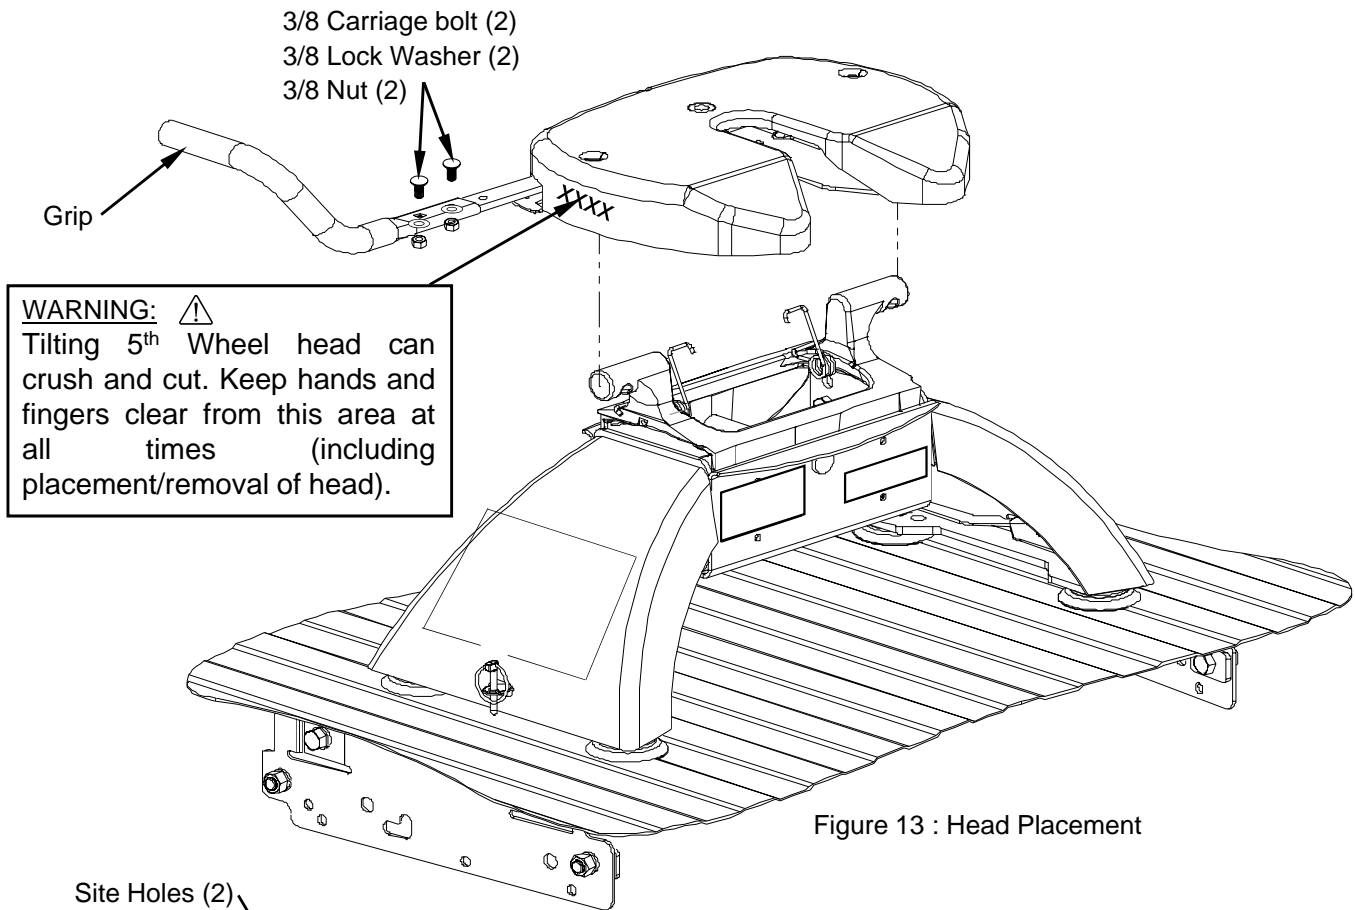

Figure 13 : Head Placement
11. Place and pin head onto center section (see Figures 13/14). Keep hands clear of ear placement while placing/removing head onto/off hitch base as noted on head labels. Head will tilt rearward with proper torsion spring installation (Step 10).
12. Add head handle and handle carriage bolts as shown in Figure 13.
5. **KEEPING HANDS AND FINGERS AWAY FROM THE PINCH POINTS ON EACH SIDE OF THE HEAD**, place head onto center section (Figure 13). Head should tilt rearward on the torsion springs.
2. **KEEPING HANDS AND FINGERS AWAY FROM THE PINCH POINTS ON EACH SIDE OF THE HEAD**, lift head off center section (Figure 13). Store where dirt and debris will not get inside jaw mechanism.